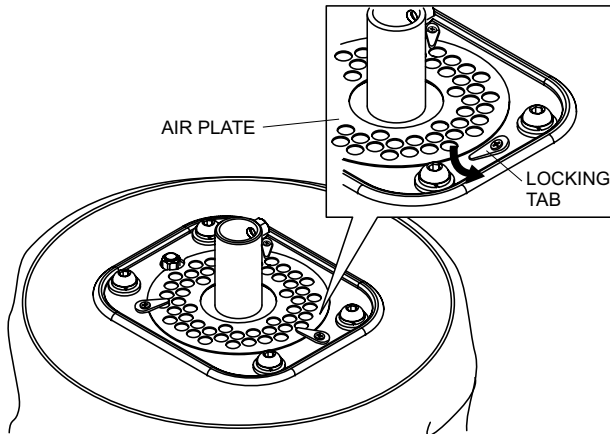

Figure 27. Accessing Filter
2. Turn the balloon/lamp assembly upside down to access the filter. See Figure 27.
3. Turn the three locking tabs outwards to release the air plate. See Figure 27.